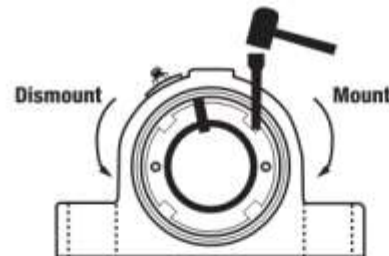

Figure 3
4. (Figure 3) Rotate locknut counter clockwise until bearing freely slides from the shaft.